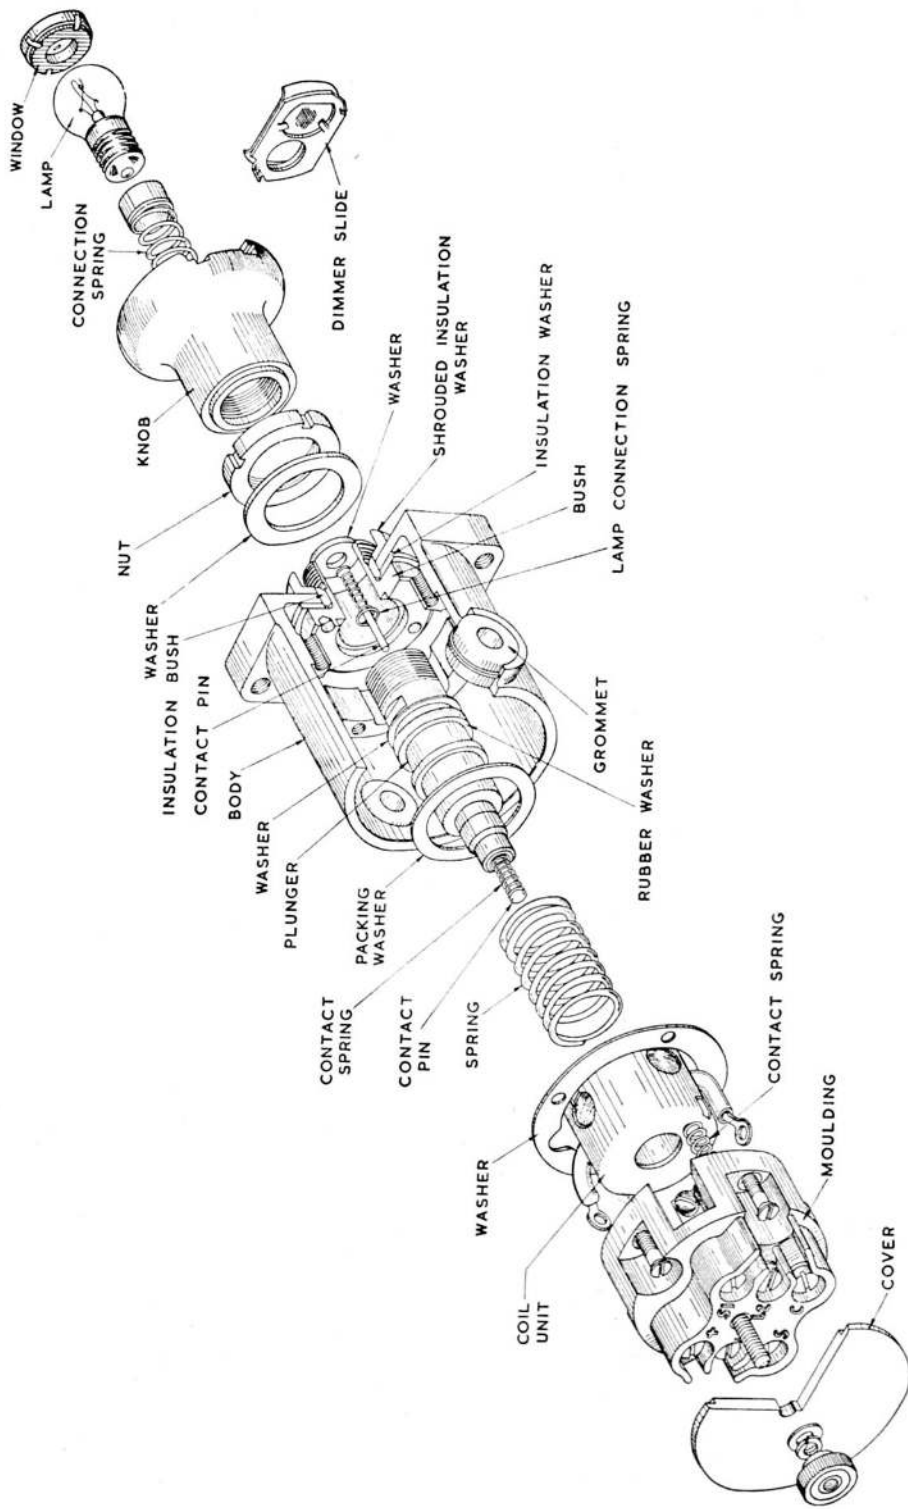

Fig. 2. Exploded view of switch, Type XJD/4
4. The plunger knob (*fig. 2 and 3*) screws on to the plunger, and houses the warning lamp, which slips into the lampholder and makes contact with a rod running through the centre of the plunger to the contact spring. The lamp is covered by an amber dimmer screen, and both are held in position by a blanking screen.
grommets are in good condition. If the switch has been completely stripped, consult fig. 2 for the correct order of assembly. Ensure that no acid or grease contaminates the rubber washers and grommets.
12. The terminal moulding and solenoid should be assembled together, taking care that the contact spring is correctly located in its hole and is making contact with the underside of the solenoid cup. The slot in the cup must engage with the key in the moulding. Connect the solenoid leads to the underside of the terminals marked S and C, as indicated in fig. 2.